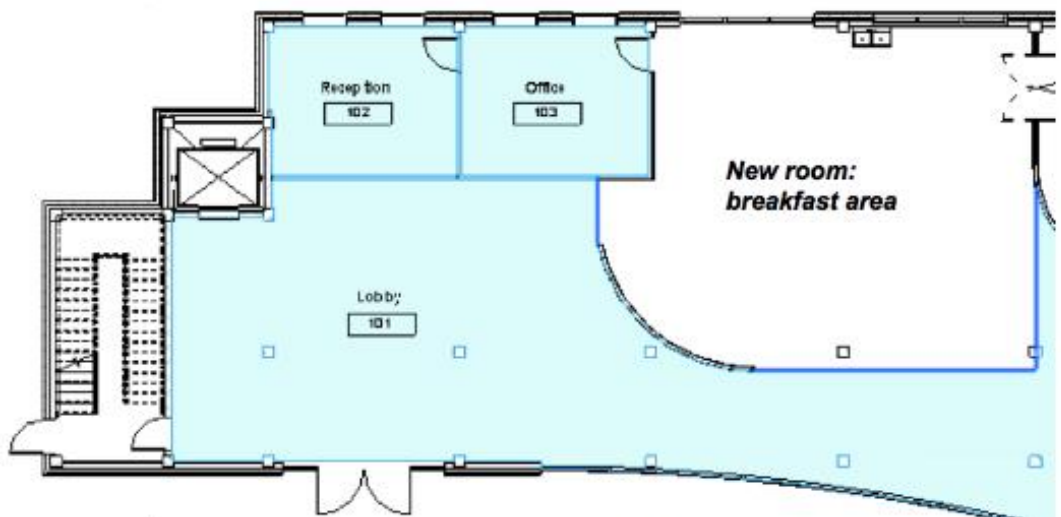

Figure 15–30
3. Start the **Room** command and verify that **Tag on Placement** is on. In Properties, in the *Name* field, type **Breakfast Area**, and then place the room in the location shown in Figure 15–30.